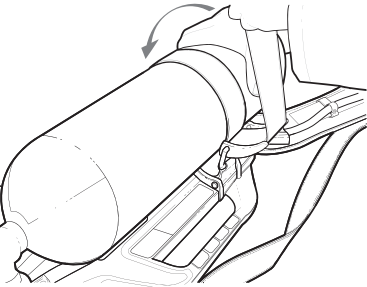

Fig. 36 Securing the cylinder strap
10. Pull the strap over the cylinder to operate the cam-lock buckle (Fig. 36).